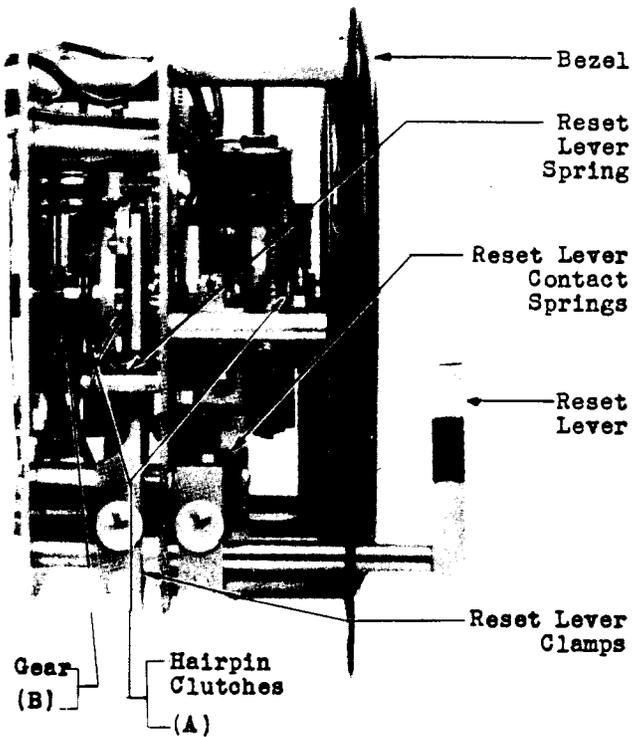

Fig. 3 - Clock and Reset Lever Mechanism
- * Hairpin Clutches - Fig. 3(A); apply ←
- (b) Fig. 3 (B): The teeth on the gear associated with the motor pinion shall be adequately lubricated with KS-7470 oil. When lubrication is ← necessary, one dip of oil shall be distributed over four gear teeth.